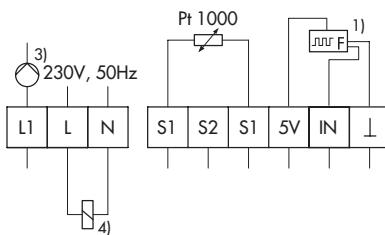

Fig. 4 . Wiring of Type 5724/5725 (default)
The default setting (WE) is configured for an application of the electric actuator with a Pt 1000 flow temperature sensor, water flowmeter and pump control output (see Fig. 4).